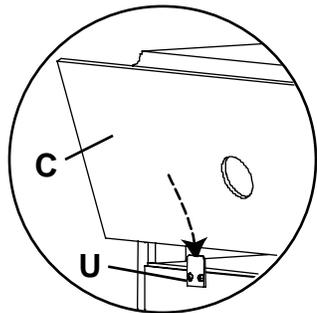
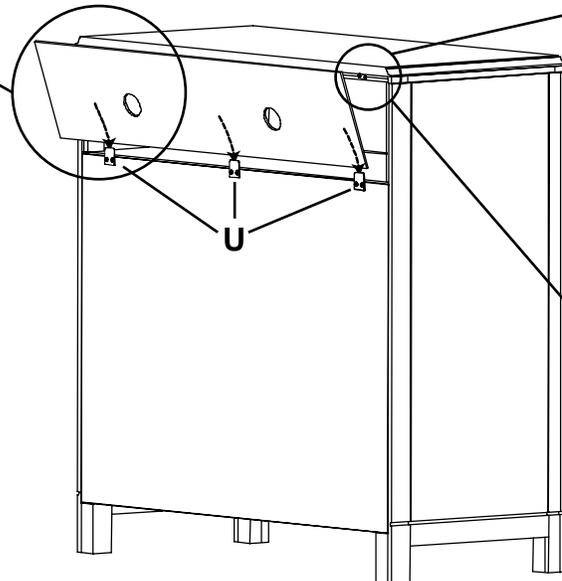
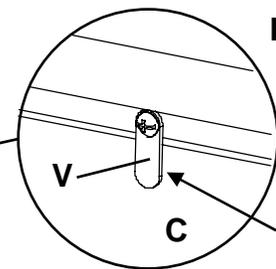

Fig. 2a
Fig. 2
Fig. 2b
2. To insert your media components and access wires easily, detach the Removable Back (C). To do so, unlock the Turn Buttons (V) as shown in Figures 2b and 2c. Slide the Back away and place it off to the side. See Figure 2a. To put it back into place, slide the Back and position the Turn Buttons so that they are locked. See Figures 2, 2a and 2b.